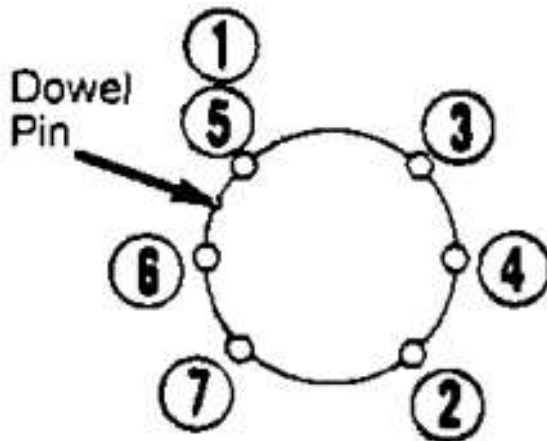

Fig. 1: Transfer Case-To-Extension Housing Tightening Sequence Borg-Warner 1345)
1. Install new transfer case-to-extension housing gasket. To complete installation, reverse removal procedure. Tighten transfer case-to-extension housing bolts in sequence. See **Fig. 1**.